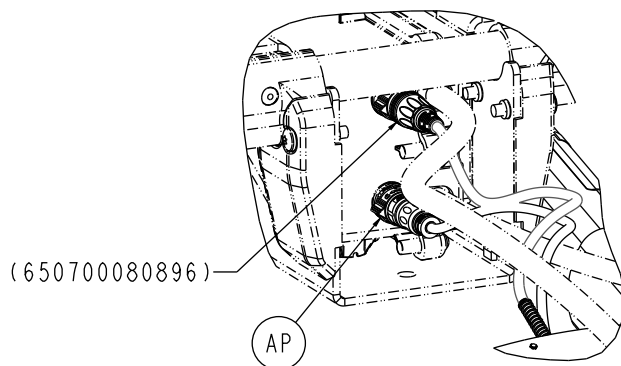

Figure 91 – Remove the solenoid/transducer external cable assembly
8. Remove the solenoid/transducer (AP) at the HBC via the quick disconnect (Figure 91).